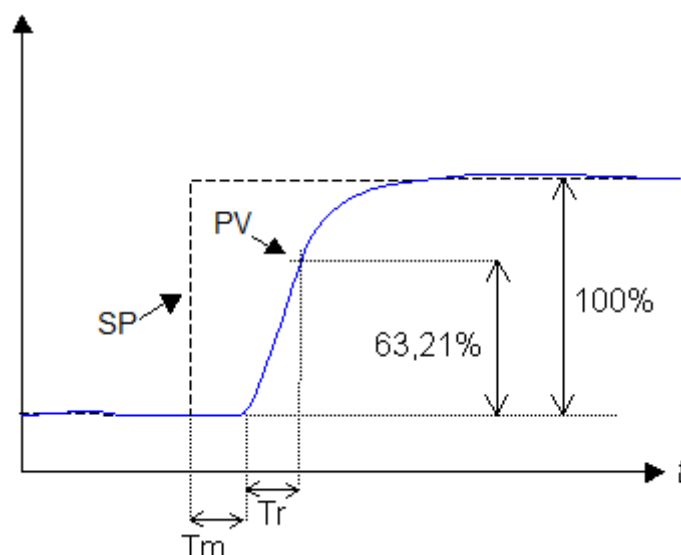

Figure 7-23. Tr Compared with a Time Constant
The response time T_r can be compared with a time constant of the closed loop, as shown in Figure 7-23.
The parameter T_r , on Figure 7-23, shows the response time desired. It is the measured time between the start of the system response (after the dead time T_m), and when PV reaches 63.21% of its total excursion. Through T_r the user can specify a performance requirement for the controlled loop. It should be careful to not specify response times lower than one tenth of the constant time of the system, because otherwise the system can become unstable. Than Lower as is the value of T_r as greater is the necessary gain.
It is observed that the temperature transmitter (TT) is located near the consumer, which is 20 meters from the point of heating the water. Processes like this are good examples of how dead times can be introduced. This is because the heated water at the point of heat takes some time to cover the distance from the measuring point to the consumer. Dead times were previously discussed (Figure 7-23).